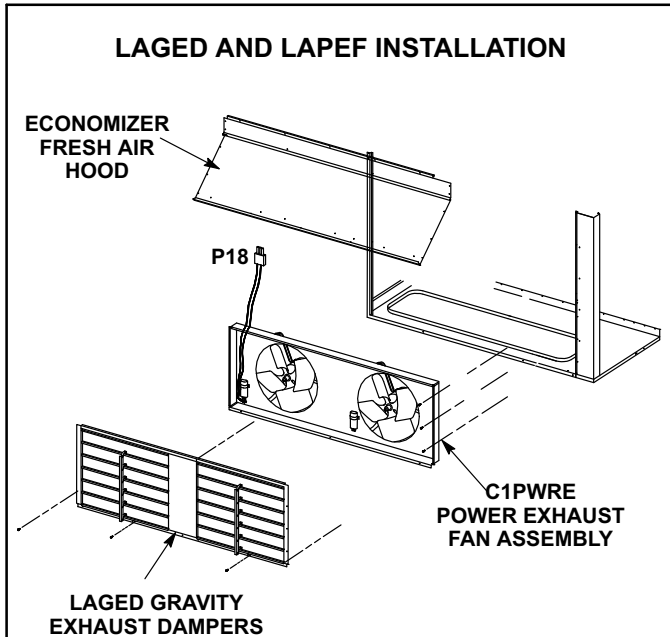

FIGURE 26
LAGED18/24 dampers (figure 26) available for TCA180/300 units, are used in downflow and LAGED(H)18/24 are used in horizontal air discharge applications. LAGED(H) gravity exhaust dampers are installed in the return air plenum. The dampers must be used any time an economizer or power exhaust fans are applied to TCA series units.
C1PWRE20C available for TCA180/300 units are power exhaust fans used in downflow applications only. The fans require optional down-flow gravity exhaust dampers and T1ECON economizers. Power exhaust fans provide exhaust air pressure relief and also run when return air dampers are closed and supply air blowers are operating. Figure 26 shows the location of the C1PWRE. See installation instructions for more detail.